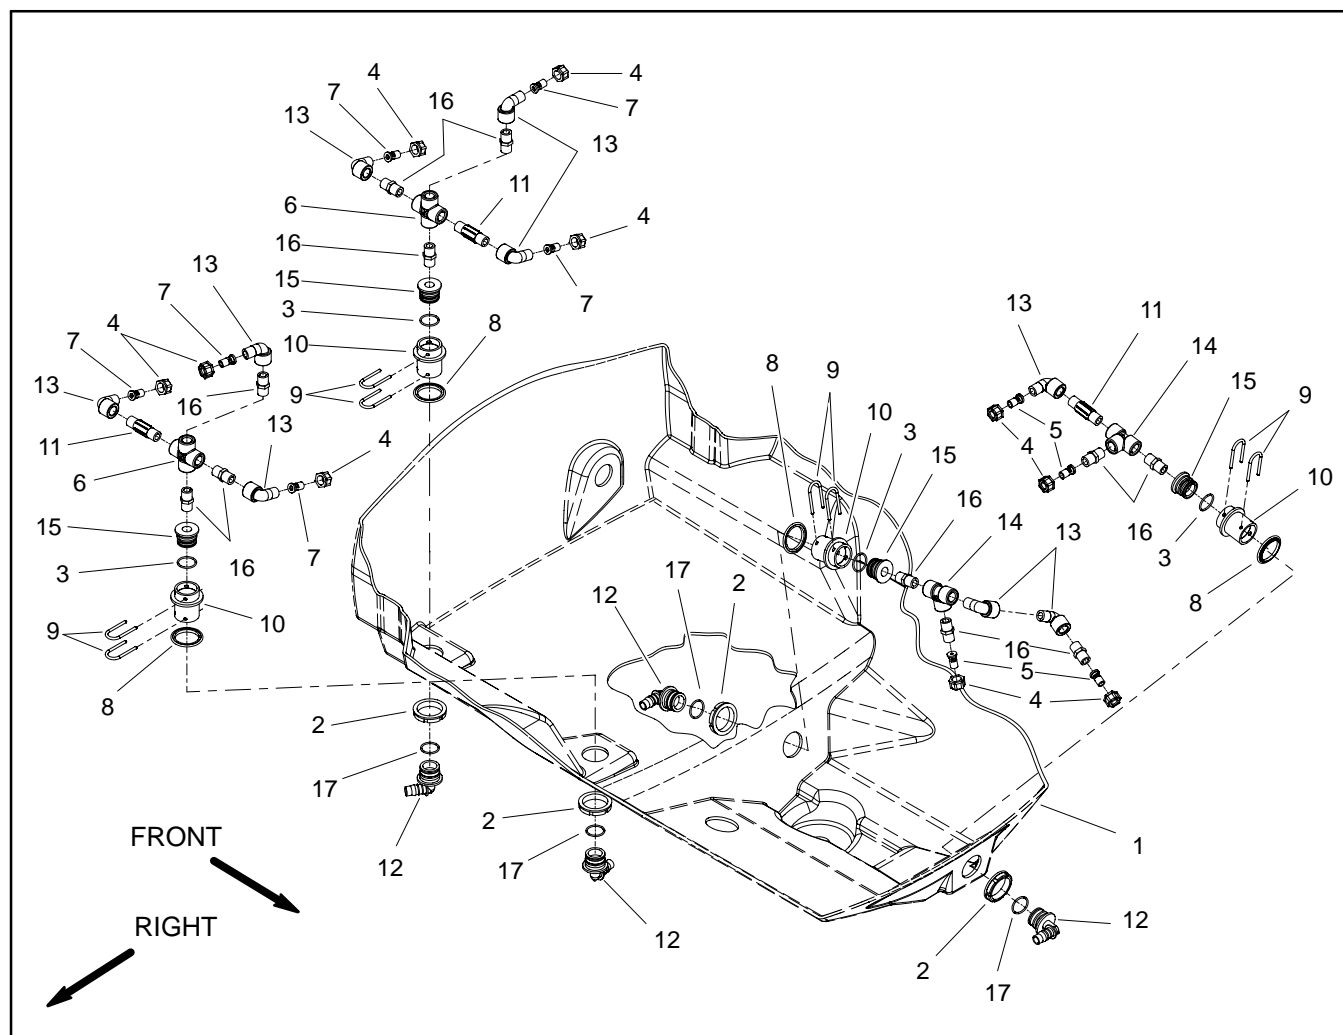

Figure 20
Disassembly (Fig. 20)
4. Remove agitation components as required using Figure 20 as a guide. Discard all removed O-rings and gaskets.
Assembly (Fig. 20)
1. Install agitation components using Figure 20 as a guide. Replace all removed O-rings and gaskets.